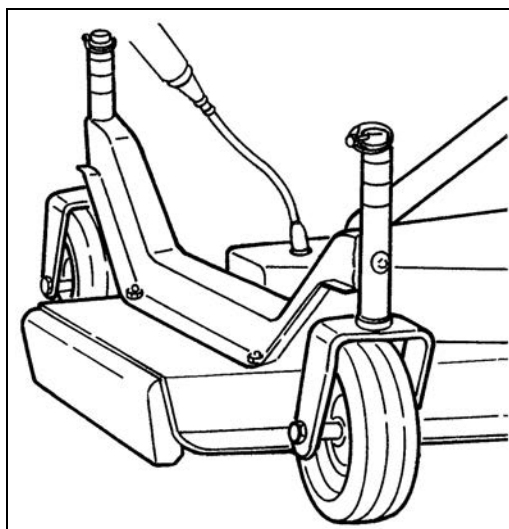

Fig. 12
1. Lubricate the three spindles with two or three shots of multipurpose grease (**see fig. 12**). The top grease fittings are easily accessible from the top of the deck by simply removing the plastic dust guards.